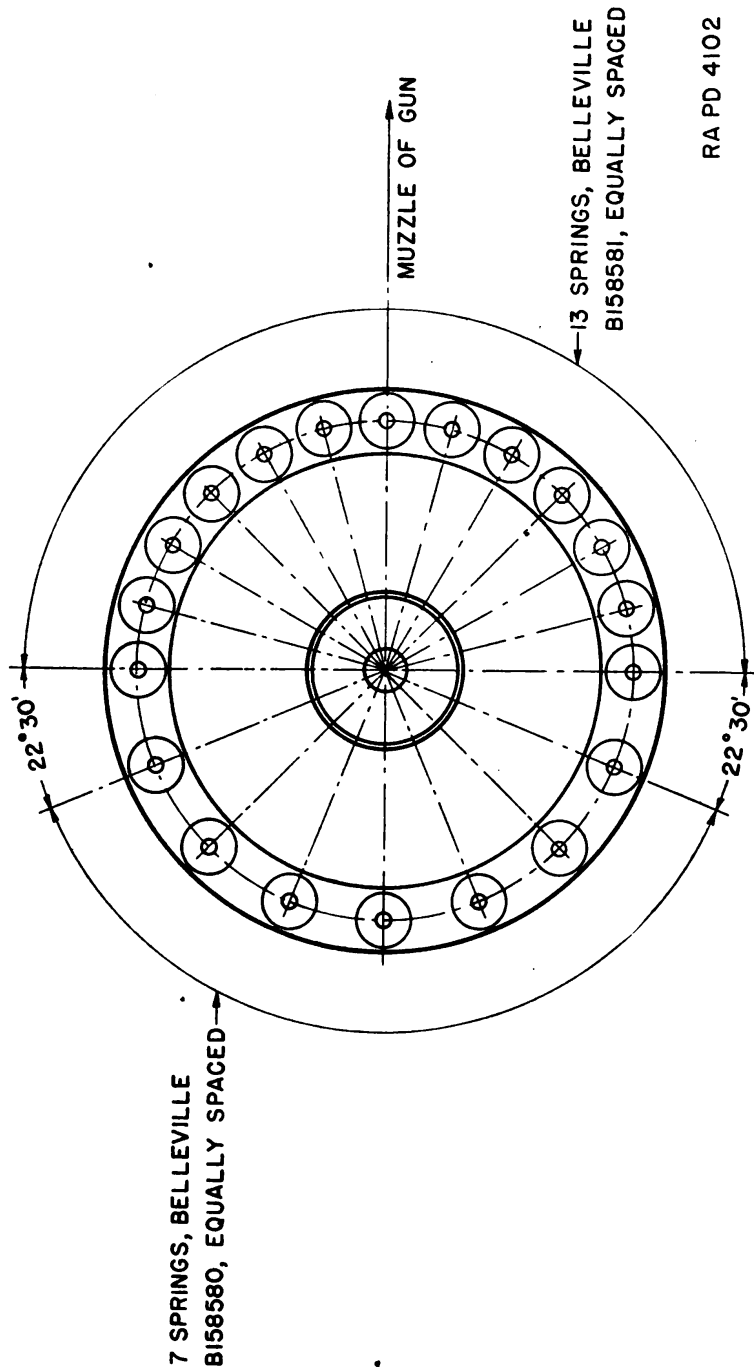

FIGURE 21.—Location of Belleville springs in bottom carriage.
c. Top carriage to bottom carriage.—Assemble the 13 heavy Belleville springs (B158581) (fig. 21) in the seats provided in the half circle facing the muzzle end of the gun. Assemble the 7 light Belleville springs (B158580) in the rear half circle. This method of assembly must be followed to compensate for the muzzle preponderance of the gun. Assemble the top carriage supporting roller bearing (C62336) (fig. 20) and the bottom carriage circular liner (C7186). Assemble the bushing (B105024). Place the top carriage in position on the bottom carriage and assemble the pintle (C7187). Assemble the roller bearing (A171739) and the pintle bolt (C68849). Secure the assembly by tightening the bolt from the bottom. Assemble the cotter pin and the pintle bolt cover (B158579) and the bottom carriage pintle bearing plug (B158125). Assemble the two bottom carriage liners (C73060 and C73061). Adjust the pintle bolt and nut to obtain the necessary .010-inch clearance between the top and bottom carriage.